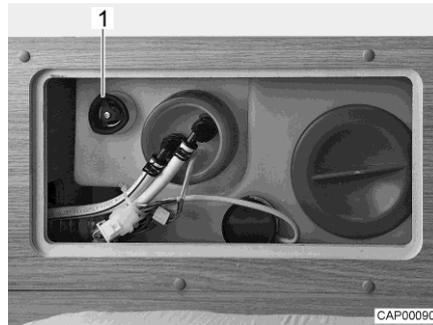

Fig. 124 Water tank with rotary handle
- Turn the rotary handle (Fig. 124,1) on the water tank in an anticlockwise direction as far as possible beyond the resistance to fully open the drainage opening.